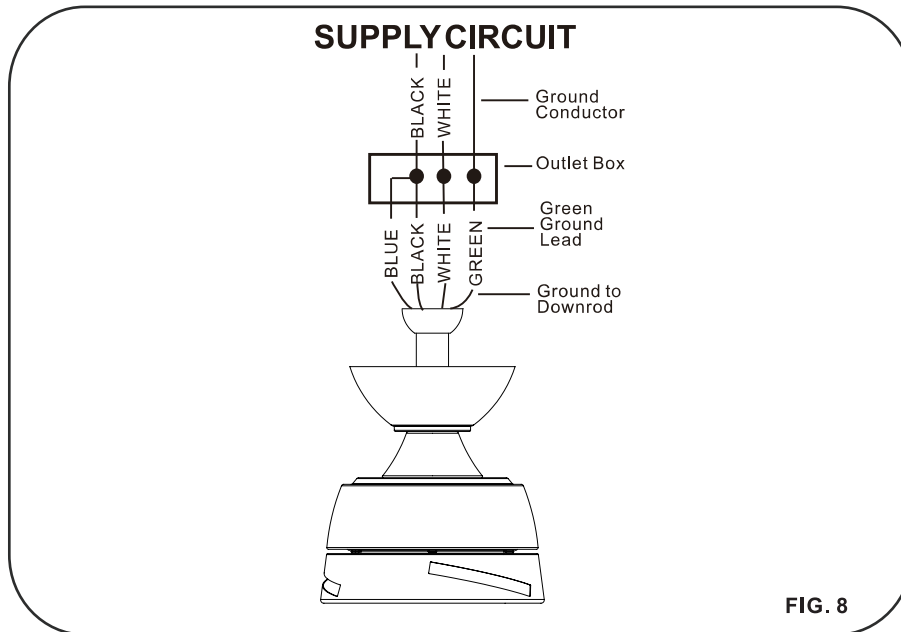

FIG. 8
Step 1. Connect the black (hot) wire from the ceiling to the black and the blue wires from the fan. Connect the white (Neutral) wire from the ceiling to the white wire from the fan. (Fig.8)
Step 2. If your outlet has a ground wire (Green or Bare Copper) connect the fan ground wires (from hanger ball and mounting bracket) to it; otherwise connect the fan ground wire wires from the hanger ball and mounting bracket together. (Fig. 8)